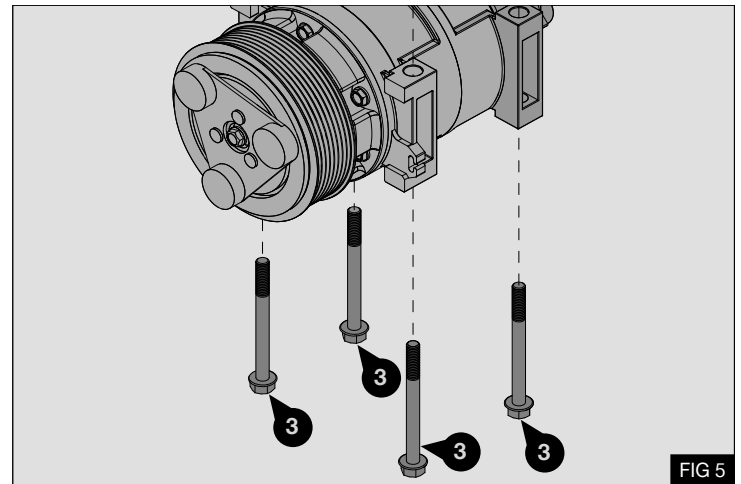

FIG 5
1. Fit the compressor to the compressor mount bracket assembly. Fixing it with the supplied bolts (3) M8 x 90 - Fig.5
2. Torque the four bolts (3) to 22Nm / 16.2lb.ft. using a calibrated torque wrench.